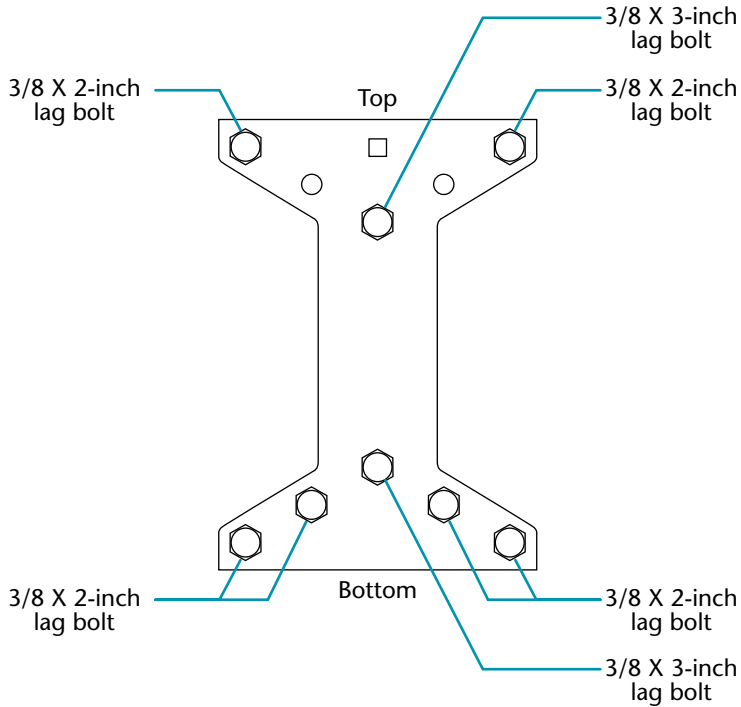

Figure 4-37. Installing the mounting lag bolts
6. Install the mast onto the mounting surface using a 3-inch X 3/8-inch lag bolt in the top center hole (see figure 4-37). Tighten the bolt enough to secure the base plate, but leave it loose enough to enable you to adjust the base plate.